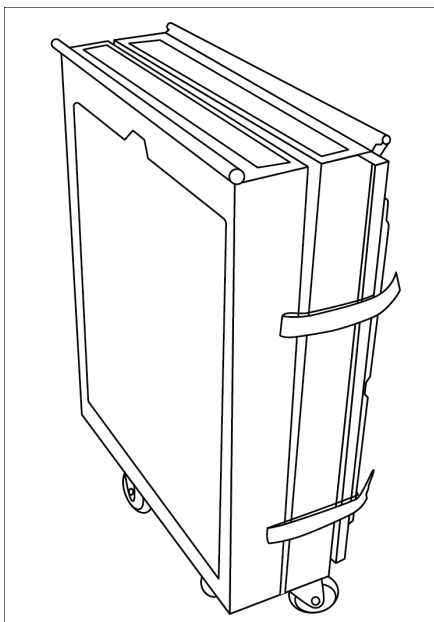

Figure 3-8. Straps that secure the ballot box
2. Release the four Velcro securing straps on the back and front of the collapsed ballot box (Figure 3-8).